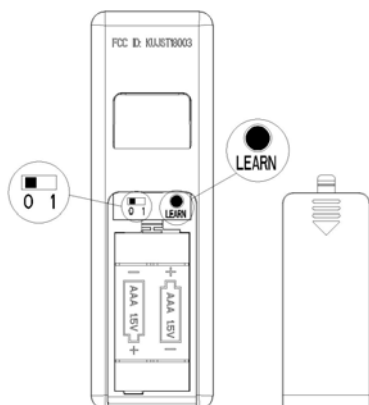

FIG. 2
1. Make sure power to the fan is off. Open the remote battery cover and install 2pcs DC1.5V,AAA batteries. (Fig. 2).
2. Change the dip switch from 0 to 1 (Fig. 2).